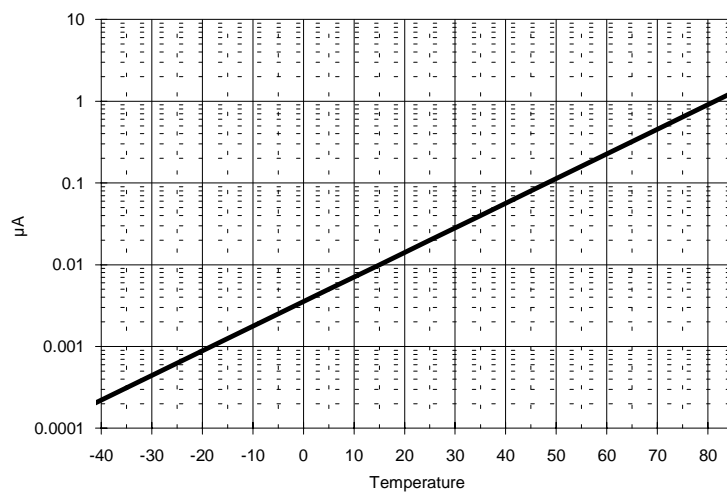

Figure 11 : Typical 'Zero Power' I_{DD} vs. Temperature ($V_{DD} = 5.0V$)
2. RD, MODE, RXCK inputs at V_{SS} , ZP input at V_{DD} . See also Figure 11.